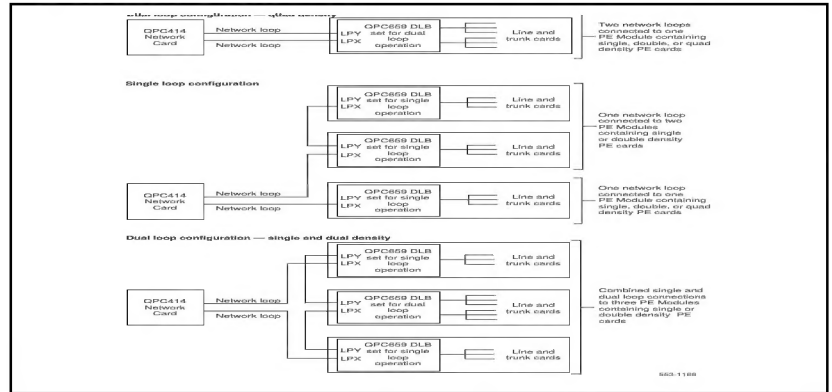

Figure 14
- f** Attach a spacer to one side of each module, except the end column (see Figures 14 and 15).